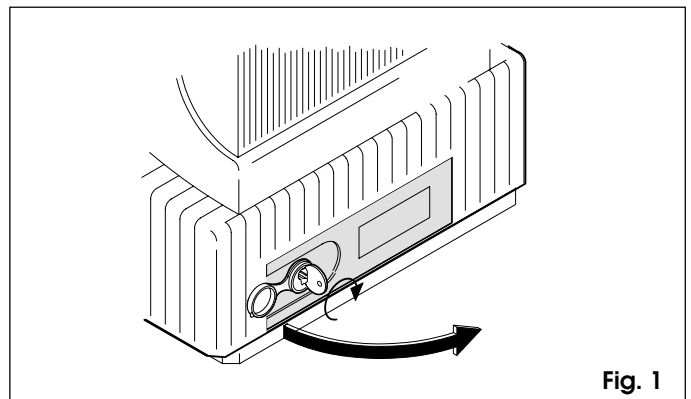

Fig. 1
- open the lid of the lock and insert the relative key in the lock (fig. 1);
- turn the key clockwise and open the cover of the releasing device as shown in figure 1.
Protection fuses	2 (see fig. 1)